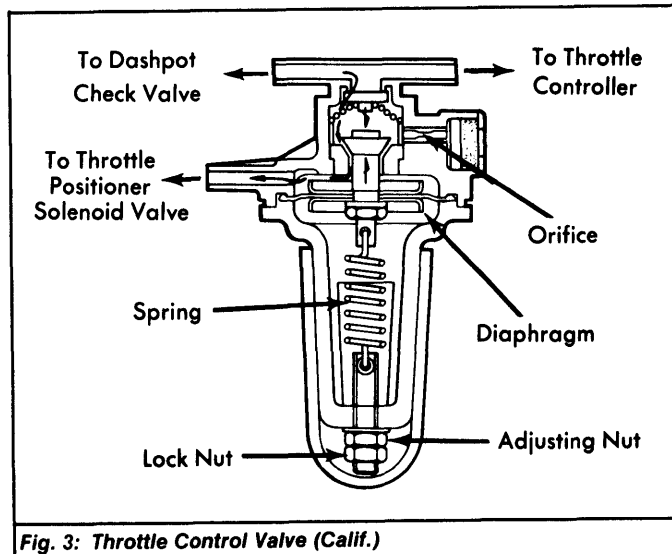

Fig. 3: Throttle Control Valve (Calif.)
**California Models** - Actuation of the throttle controller is by the throttle control valve. See Fig. 3. When the manifold vacuum exceeds a preset value, the valve opens and the vacuum is introduced into the throttle opener.